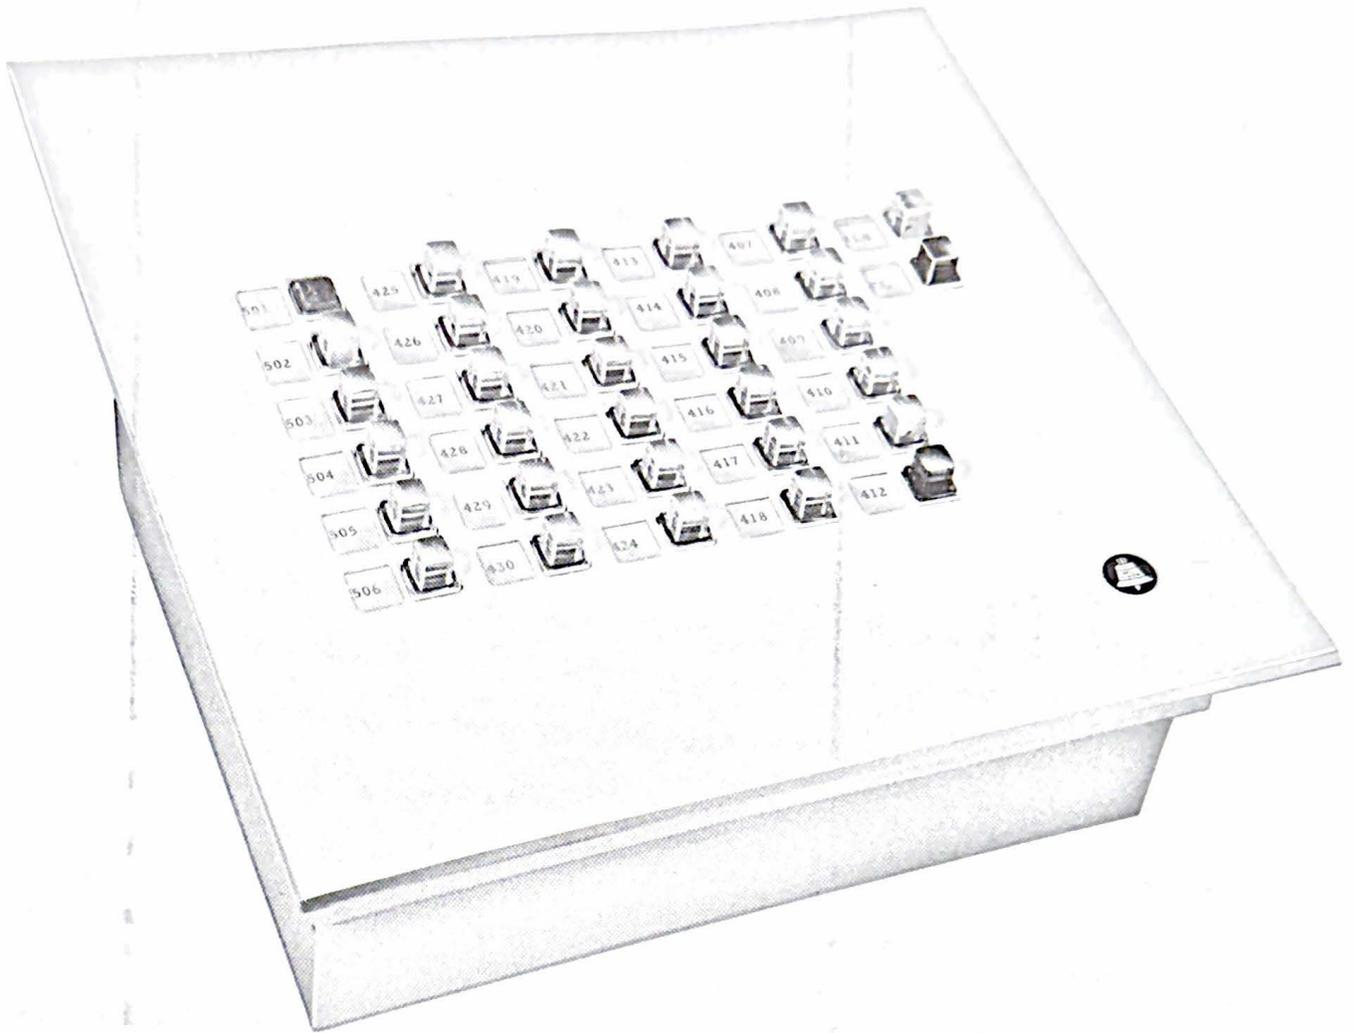

Fig. 5 — 401A Key Mounting
3.01 Fig. 5 shows a typical 401A key mounting with keys in place.